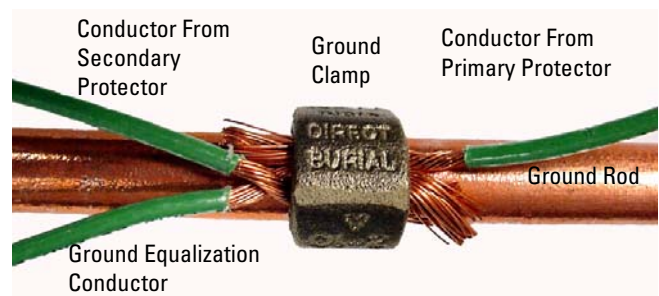

Figure 7: Connect Conductors to the Ground Rod
9. Cut the conductors to the length necessary to connect to the ground point, leaving enough length to allow for the equipment to be serviced outside the manhole. Strip the conductors and connect them to the ground point, as shown in Figure 7.